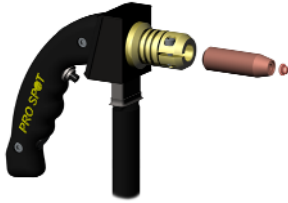

Figure 6.21
4. Fit Single-Sided gun with the magnetic rivet adapter (*fig. 6.21*).
5. Insert rivet into the adapter (*fig. 6.21*).